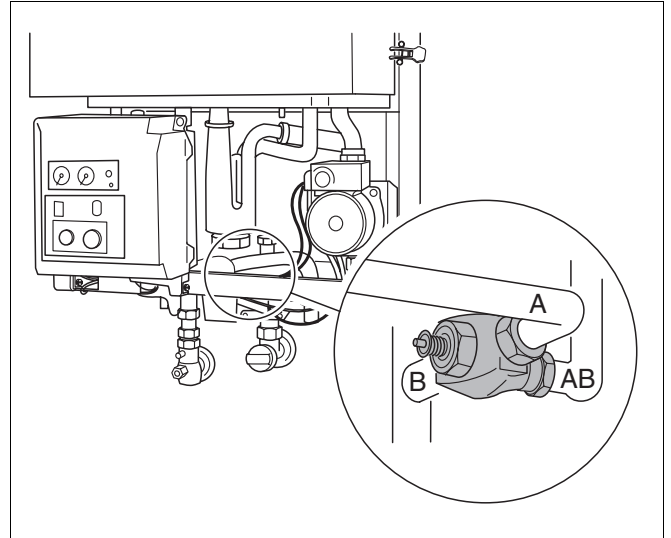

Fig. 87 600 Series 11S / 19S / 24S / 24C:
- Loosen the 3 compression nuts (fig. 87).